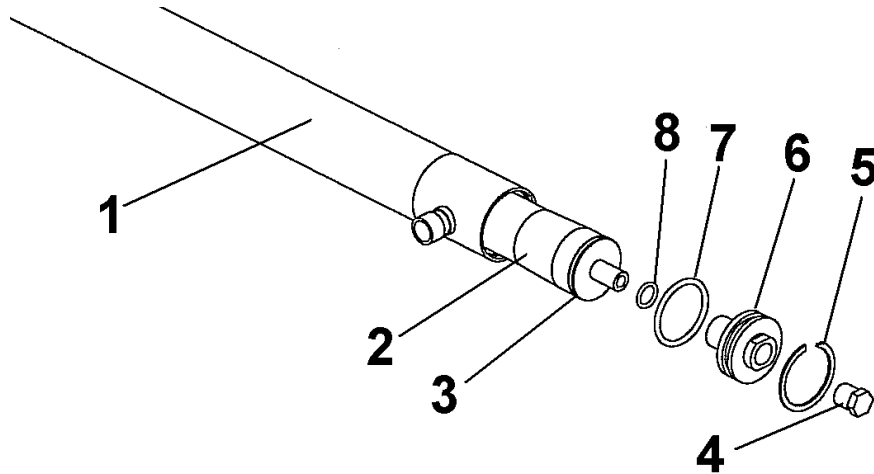

Figure 6. Membrane Removal/Installation.
1. Lubricate the O-rings (7, 8, 3) with Dow Corning 111, to facilitate assembly. See Figure 6.
2. Install large O-rings (7) on end caps (6). Install small O-rings (8) inside the end caps (6).